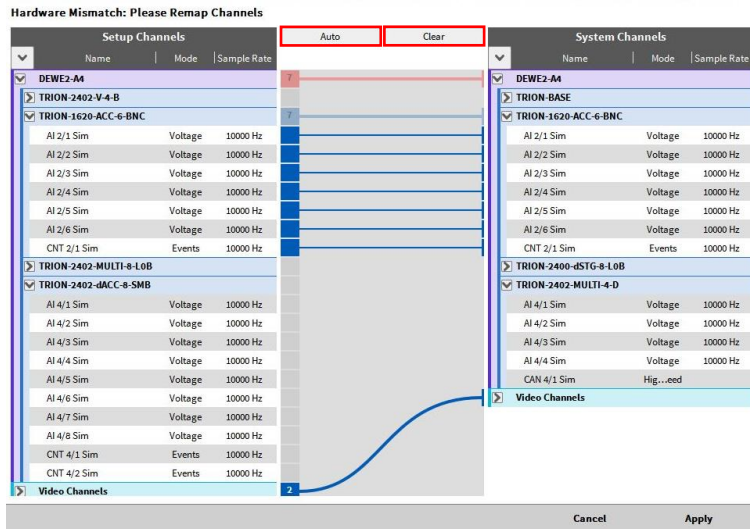

Figure 2-4: Hardware Mismatch dialog
- If the measurement hardware does not match with the hardware stored in the setup file, the *Hardware Match* dialog will open (see Figure 2-4). Within this dialog, the user can rematch his connected hardware to the hardware stored in the setup file before opening it. Identical TRION™ modules will be matched automatically or use the *Auto* button (see Figure 2-4). Clicking on *Clear* will delete the complete match that is done so far. After connecting all necessary channels, the user can click on *Apply* and the setup loading will be continued.